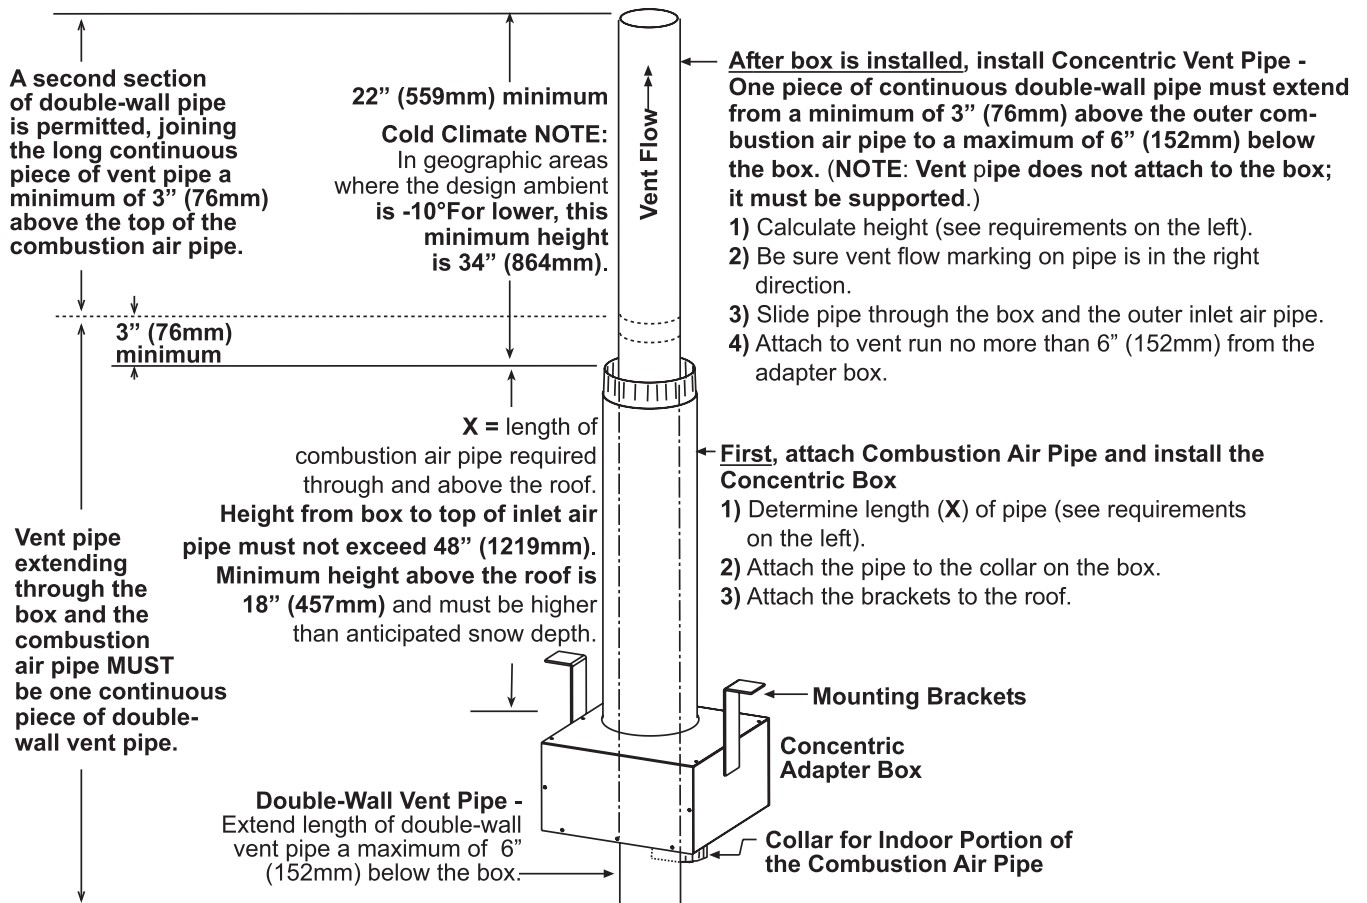

Figure 19. Combustion Air Pipe Installation
5. Connect outside section of combustion air pipe to concentric adapter box (see **Figure 19**):
- a. Determine length of combustion air pipe so that dimension X in **Figure 19** is equal to bracket length plus roof thickness and plus anticipated snow depth. Ensure that length of combustion air pipe does not exceed 48 inches (1,219 mm) or does not extend **less than** 18 inches (457 mm) above roof.
6. Secure concentric adapter box to underside of roof (see **Figure 19**):
- a. Refer to Figure 19 to determine lengths of each pipe segment and to calculate total length required. Determine minimum length by adding requirements:
- (1) Starting at bottom, vent pipe can extend maximum of 6 inches (152 mm) below box
- (2) Plus 6 inches (152 mm) through box
- (3) Plus length of brackets above box
- (4) Plus width of roof
- (5) Plus height of outside combustion air pipe above roof
- (6) Plus minimum of 3 inches (76 mm) beyond top of inlet air pipe
- (7) Total is minimum length of vent pipe section—if actual piece of vent pipe is longer, extend it farther above combustion air pipe—do not extend it more than 6 inches (152 mm) below box